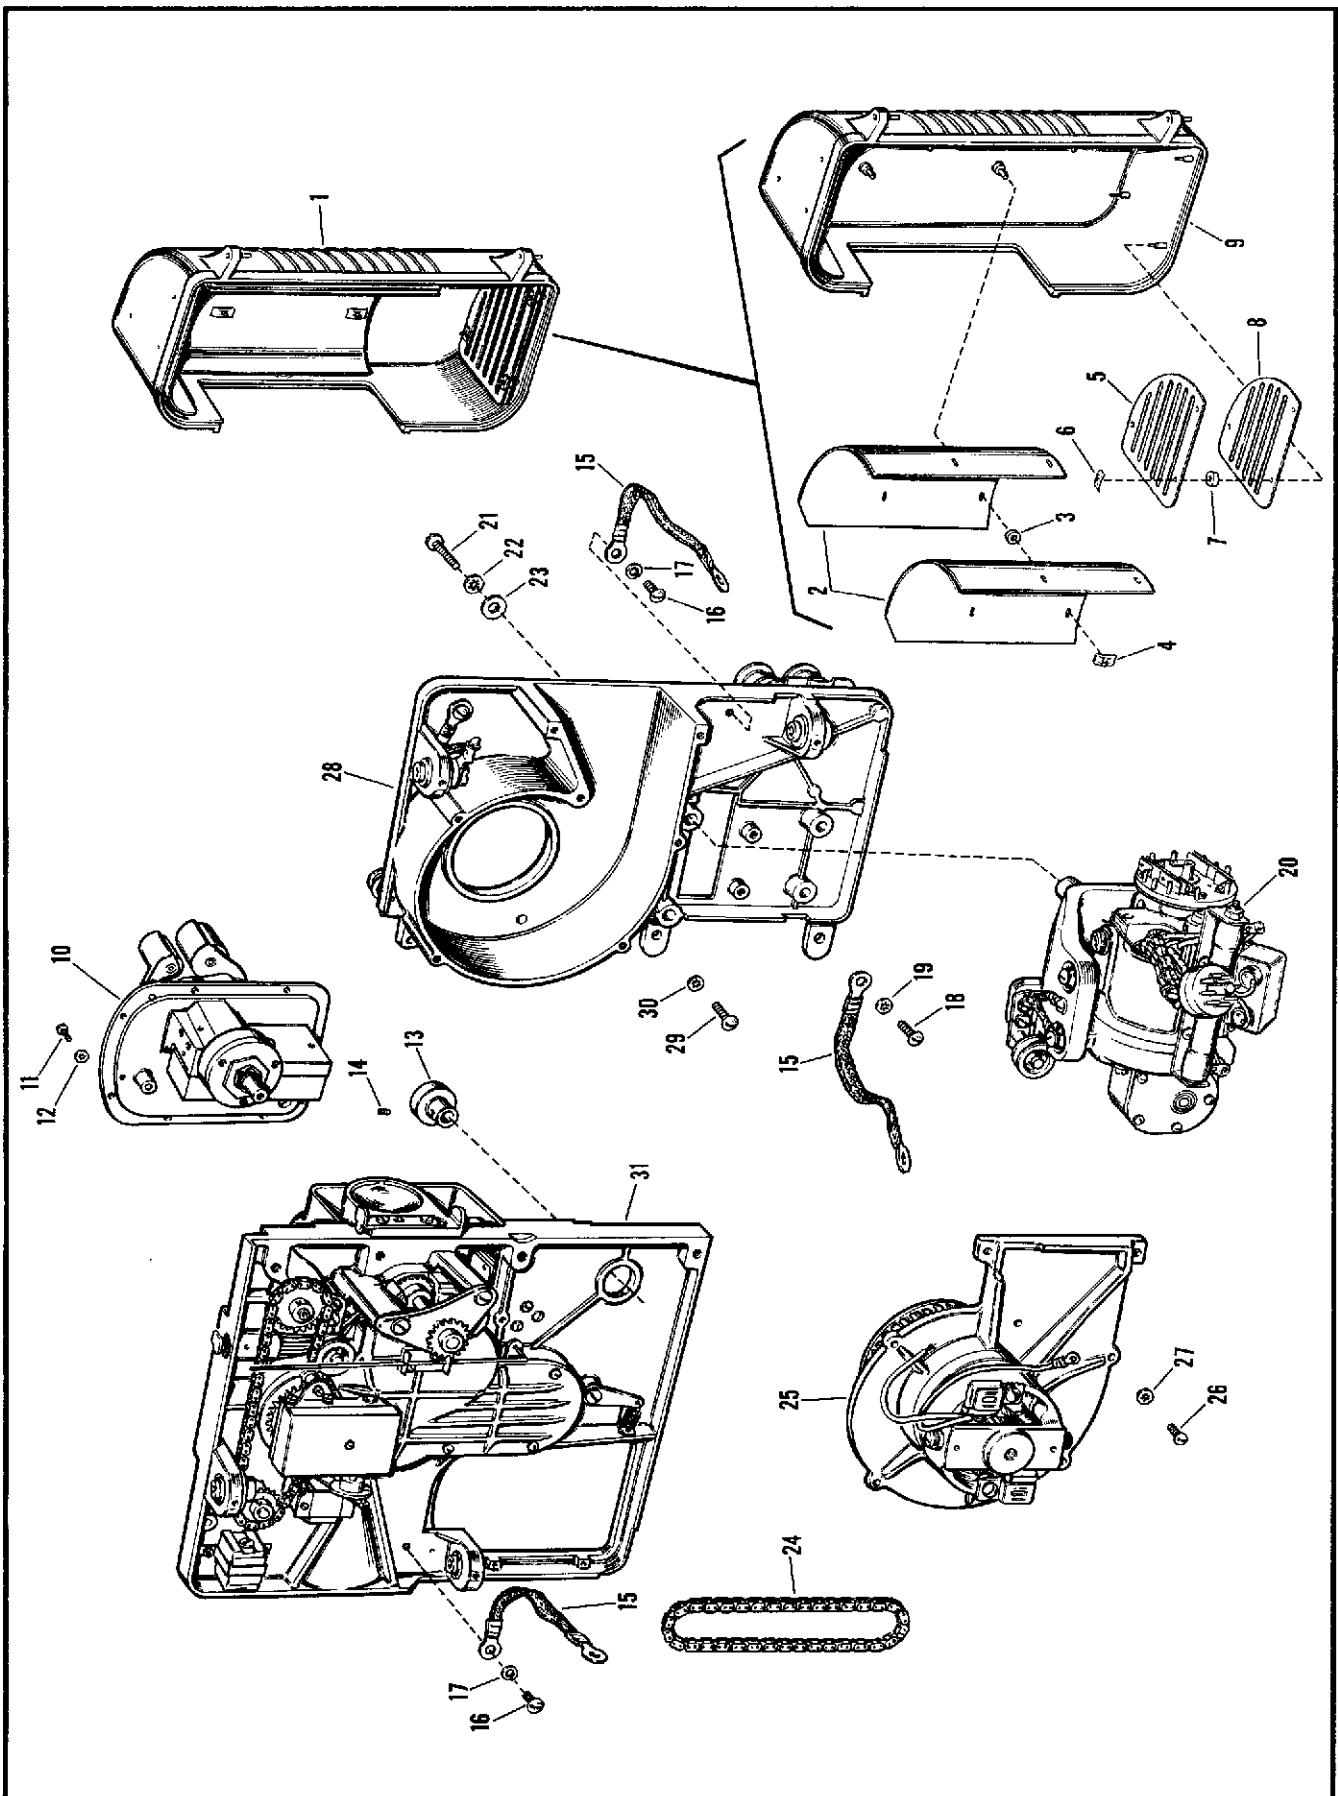

Figure 2-4. Removing Sound Head, Drive Motor and Blower Motor
Key for Figure 2-4
d. Remove two binding head screws (16) and lock washers (17) and two hex head screws (26), lock washers (27) and flat washers (28) that secure the mechanism plate at the four vibration mounts.
e. Remove mechanism plate (15) through the door side of the projector - not through the amplifier opening.
2-11. SOUND HEAD ASSEMBLY. (See figure 2-4.) The sound head assembly (10) is fastened into the mechanism plate with seven special screws (11) and lock washers (12). Remove carefully to avoid damage to the sound drum.
2-12. DRIVE MOTOR ASSEMBLY. (See figure 2-4.) Loosen set screw (14) and remove threading knob (13). Loosen the two screws in the idler roller bracket at the top of the drive motor, and shift bracket to the right to remove tension from drive chain (24). Disengage chain from sprocket above motor. Remove four screws (21), lock washers (22) and plain washers (23), supporting the drive motor to prevent it from falling. Carefully remove drive motor, disengaging drive chain from flexible drive coupling.
2-13. BLOWER MOTOR AND COVER ASSEMBLY. (See figure 2-4.) The blower motor and cover assembly (25) is held in place by seven screws (26) and lock washers (27). Remove this assembly.
2-14. REAR MECHANISM PLATE ASSEMBLY. (See figure 2-4.) The rear mechanism plate assembly (28) is secured to the front mechanism plate assembly (31) with four screws (29) and lock washers (30). Separate the two mechanism plates.